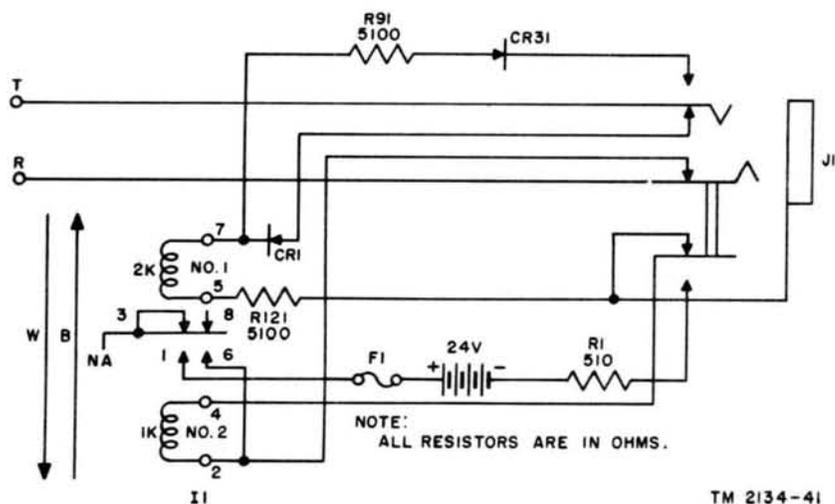

Figure 22. Magneto line circuit, simplified schematic.
b. The selection of the different types of line and trunk operation is accomplished by using the three-position line selector switch (S3 through S32) (fig. 22, 23, 24, and 40) associated with each of the line circuits (1 through 30). The cord circuits of the switchboard do not supply talking battery for the local telephones; therefore, only local battery telephones or local battery talking and CBS telephones may be used with Manual Telephone Switchboard SB-86/P.
(fig. 22 and 40).